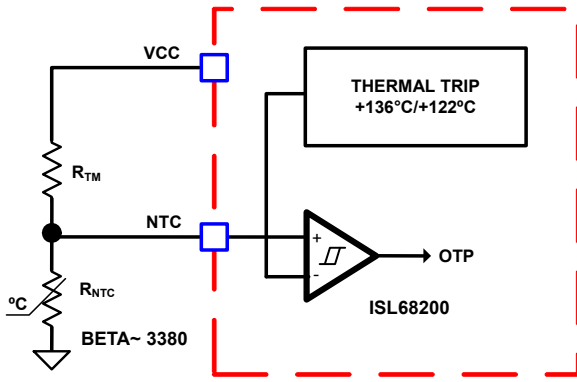
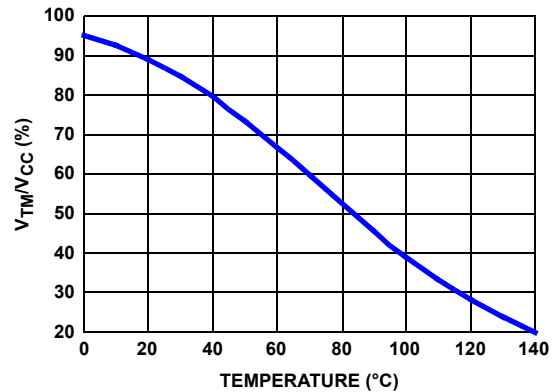

FIGURE 16. BLOCK DIAGRAM OF THERMAL MONITORING AND PROTECTION
FIGURE 18. THE RATIO OF TM VOLTAGE TO NTC TEMPERATURE WITH RECOMMENDED PART
The thermal monitoring function block diagram is shown in Figure 16 on page 18. Place one NTC resistor close to the respective power stage of the voltage regulator VR to sense the operational temperature. Pull-up resistors are needed to form the voltage dividers for the NTC pin. As the temperature of the power stage increases, the NTC resistance reduces, resulting in the reduced voltage at the NTC pin. Figure 18 on page 18 shows the TM voltage over the temperature for a typical design with a recommended 10k Ω NTC (P/N: NCP15XH103J03RC from Murata, $\beta = 3380$) and 1.54k Ω resistor R_{TM} . It is recommended to use these resistors for accurate temperature compensation because the internal thermal digital code is based on these two components. If a different value is used, the temperature coefficient must be close to 3380 and R_{TM} must be scaled accordingly. For instance, if NTC = 20k Ω ($\beta = 3380$), then R_{TM} should be $20\text{k}\Omega/10\text{k}\Omega \cdot 1.54\text{k}\Omega = 3.08\text{k}\Omega$.
to the NTC temperature of the practical design should be similar to that in Figure 18.
1. Properly choose the voltage divider for the NTC pin to match the NTC voltage vs temperature curve with the recommended curve in Figure 18 on page 18.
Figure 16 shows a comparator with hysteresis that compares the NTC pin voltage to the threshold set. When the NTC pin voltage is lower than 22.31% of VCC voltage (typically +136 °C), it triggers Over-Temperature Protection (OTP) and shuts down ISL68200 operation. When the NTC pin voltage is above 27.79% of VCC voltage (typically +122.4 °C), the ISL68200 resumes normal operation. When an OTP fault is declared, the controller forces the LGATE and UGATE gate-driver outputs low.